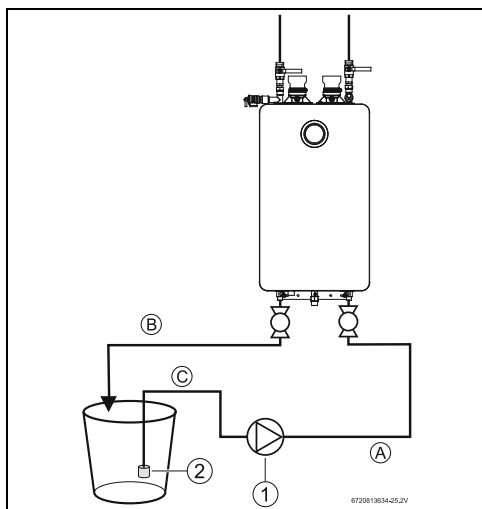

Fig. 51
- Connect a line (A) from the outlet of the circulating pump (installer supplied) to the inlet drain connection on the water heater (see fig. 51.)
- Using another line (B), connect the outlet drain connection on the water heater. Route the other end of this line into a descaling reservoir.
- Using a 3rd line (C) from the descaling reservoir, connect to the inlet side of circulating pump. Install a filter on the end of the line in the descaling reservoir.